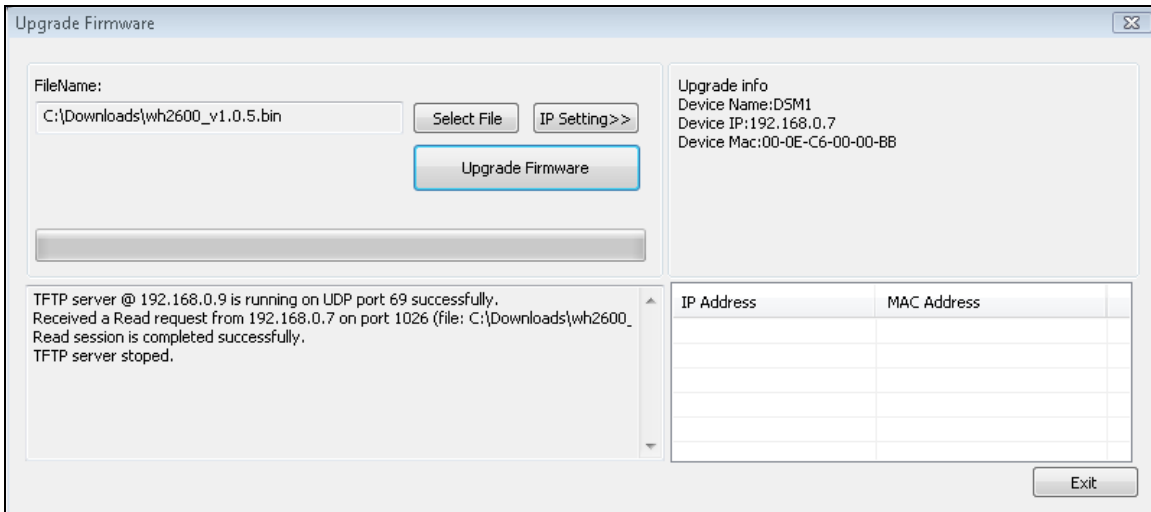

Figure 25
6. Once the firmware upgrade is complete, the dialog box will display **Read session is completed successfully**, as shown in Figure 25.